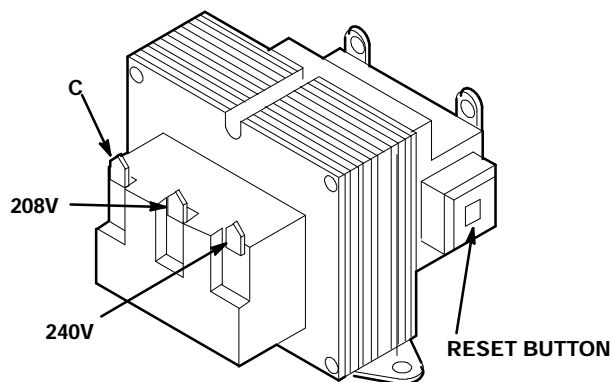

FIGURE 3. 240/24VAC POWER TRANSFORMER
**IMPORTANT:** Before 208/230VAC single-phase 60Hz electrical power circuit is connected to the cooling unit, service power voltage entering the building must be identified. Service power voltage entering the building will either be 208 or 230VAC and may be posted on the main service box. If not, the installer must contact the local electrical power company for information. If these two voltage identification attempts should fail, a voltage reading Must be performed. If service power voltage is below 218VAC, the red electrical wire connected to the 240VAC terminal on LINE (primary) side of the 240/24VAC power transformer inside the cooling unit switches electrical control box (see Figure 3 and 9) must be disconnected from the 240VAC terminal and be connected to the 208VAC terminal. If voltage is above 218VAC, power transformer red electrical wire will remain connected to the 240VAC terminal. If installer is not sure of the service power voltage entering the building, leave red electrical wire connected to the 240VAC terminal on the power transformer. If service power voltage is below 218VAC, proceed as follows: